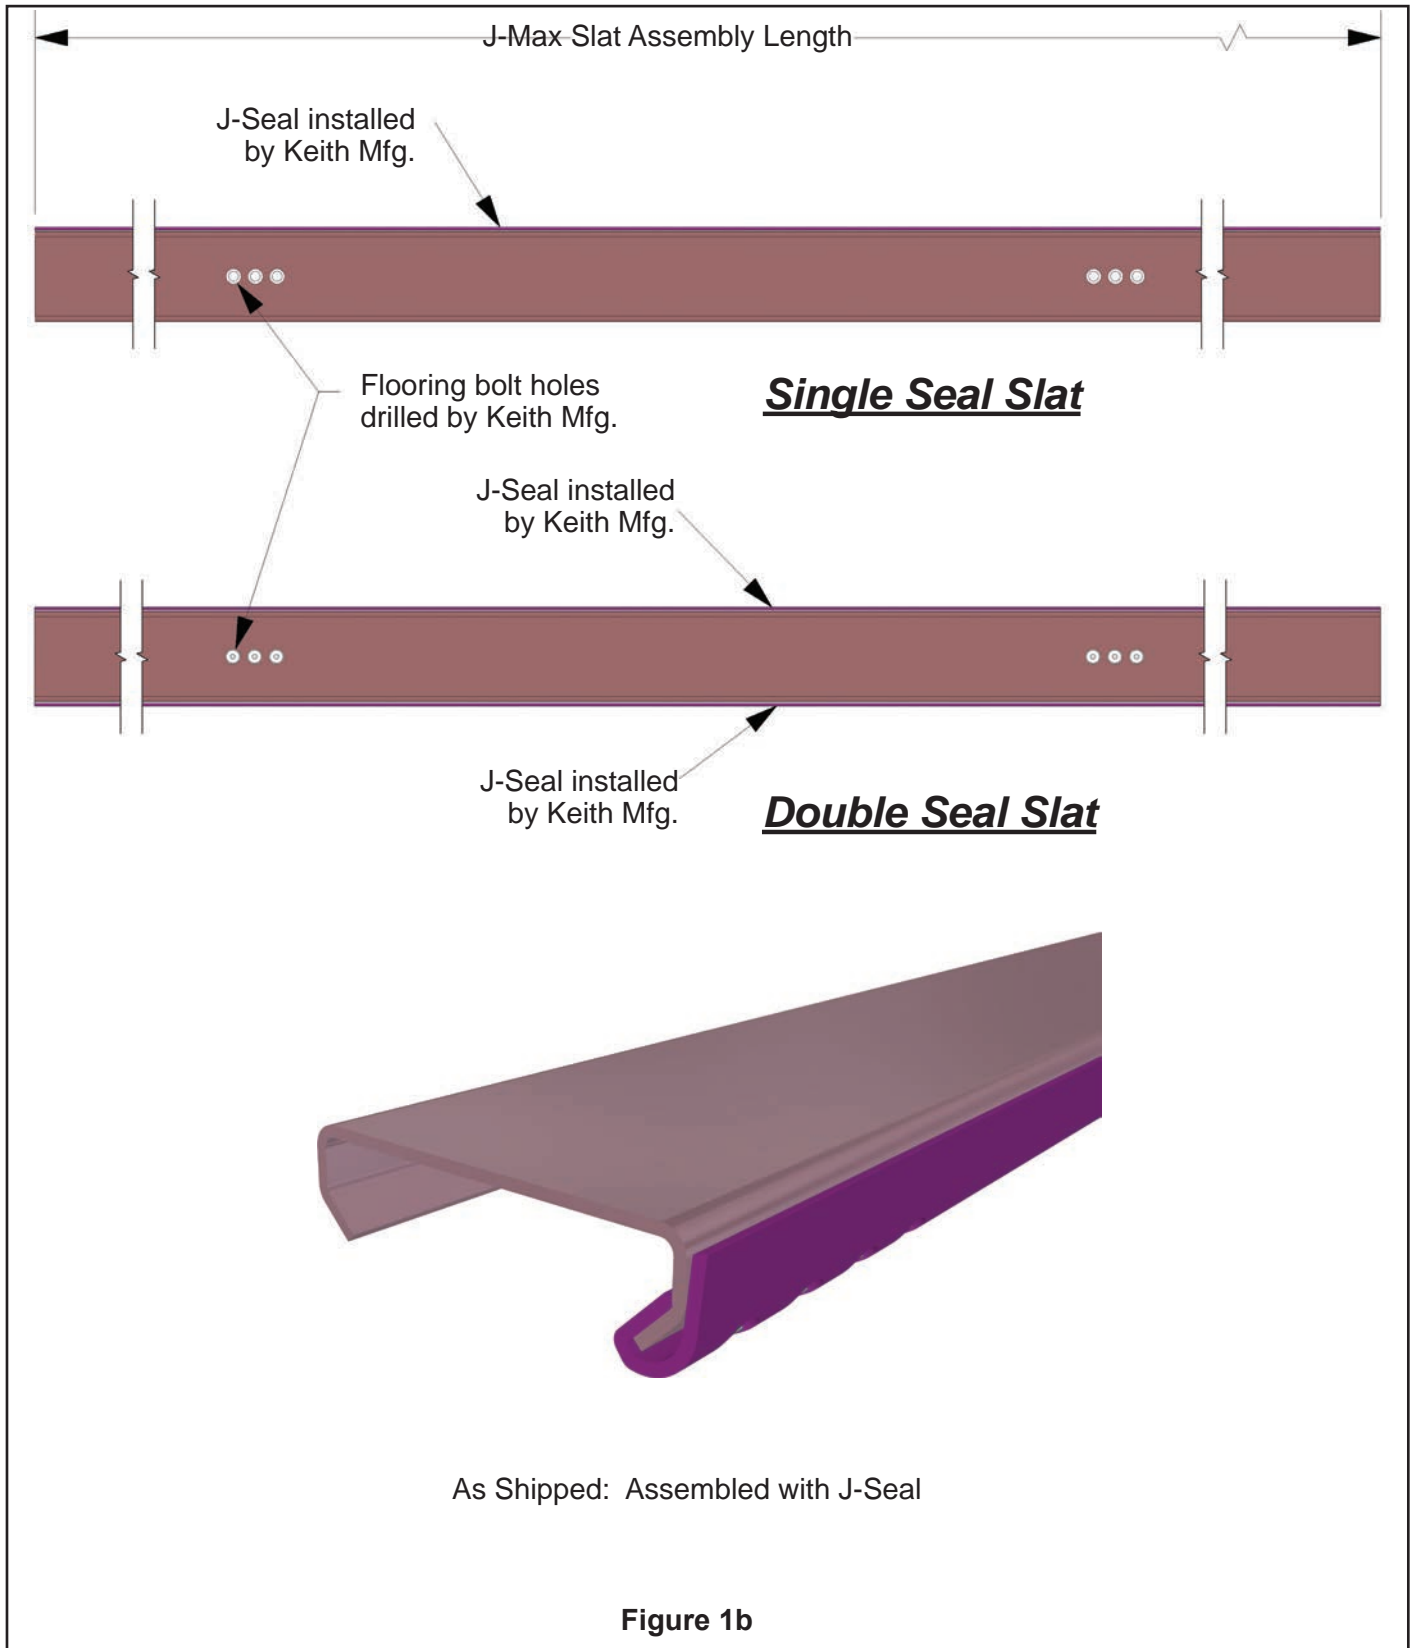

Figure 1b
C. J-Max slat assembly for **T-BLOCKS** as supplied by KEITH Manufacturing Co. (See Figure 1b)